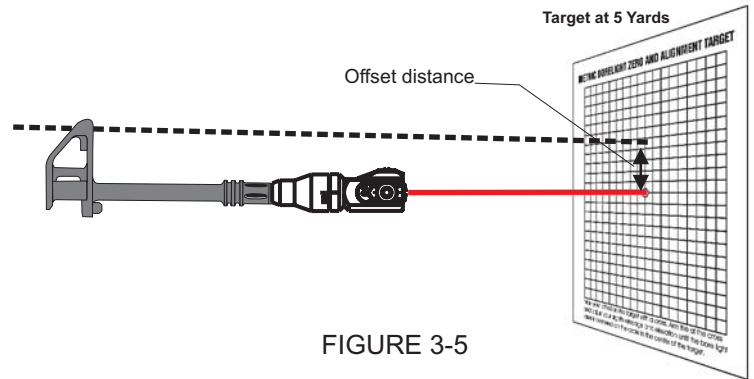

FIGURE 3-5
4. The distance between the point on the target where the laser point projected by the borelight strikes the target and the point on the target to where scope or sighting device needs to be aligned so that a bullet fired from the weapon will strike the aim point at a given range is the **"Offset Distance"**. See Figure 3-5.